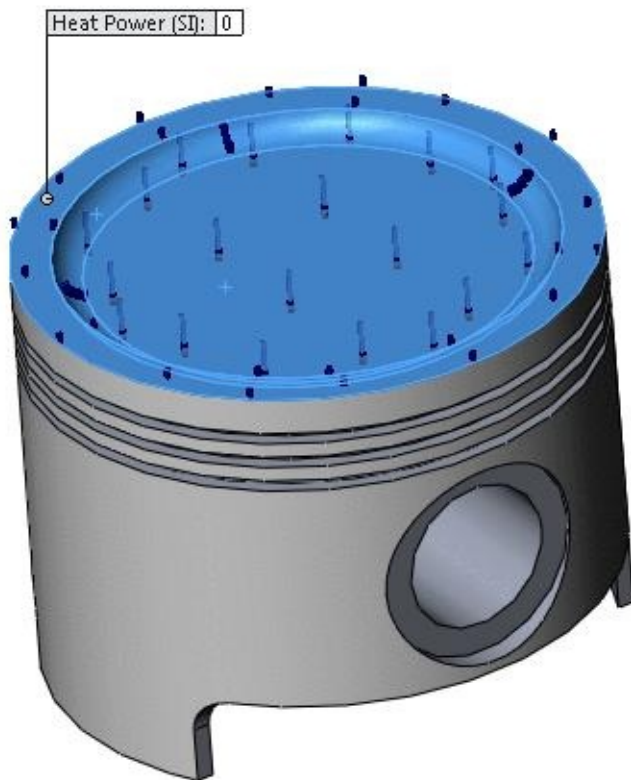

Figure-17. Faces to be selected
- Select the head faces of the piston as shown in Figure-17.